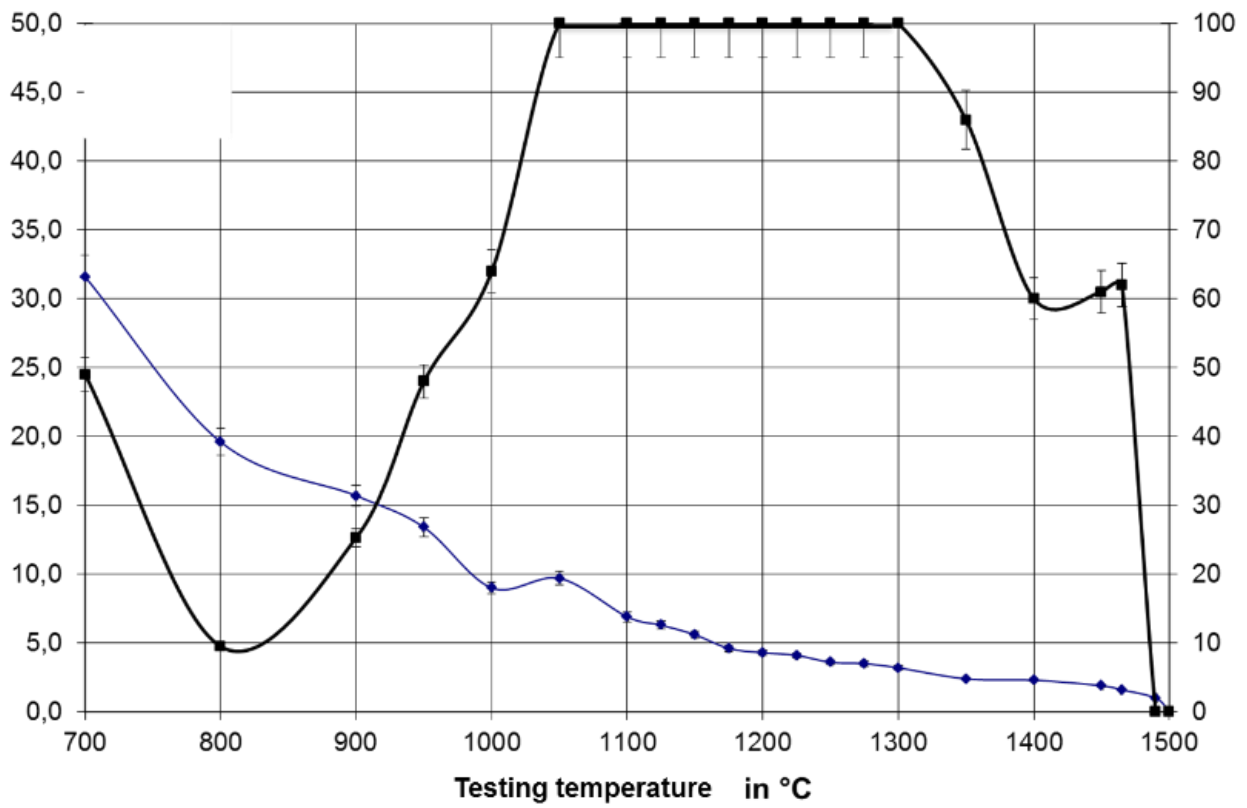
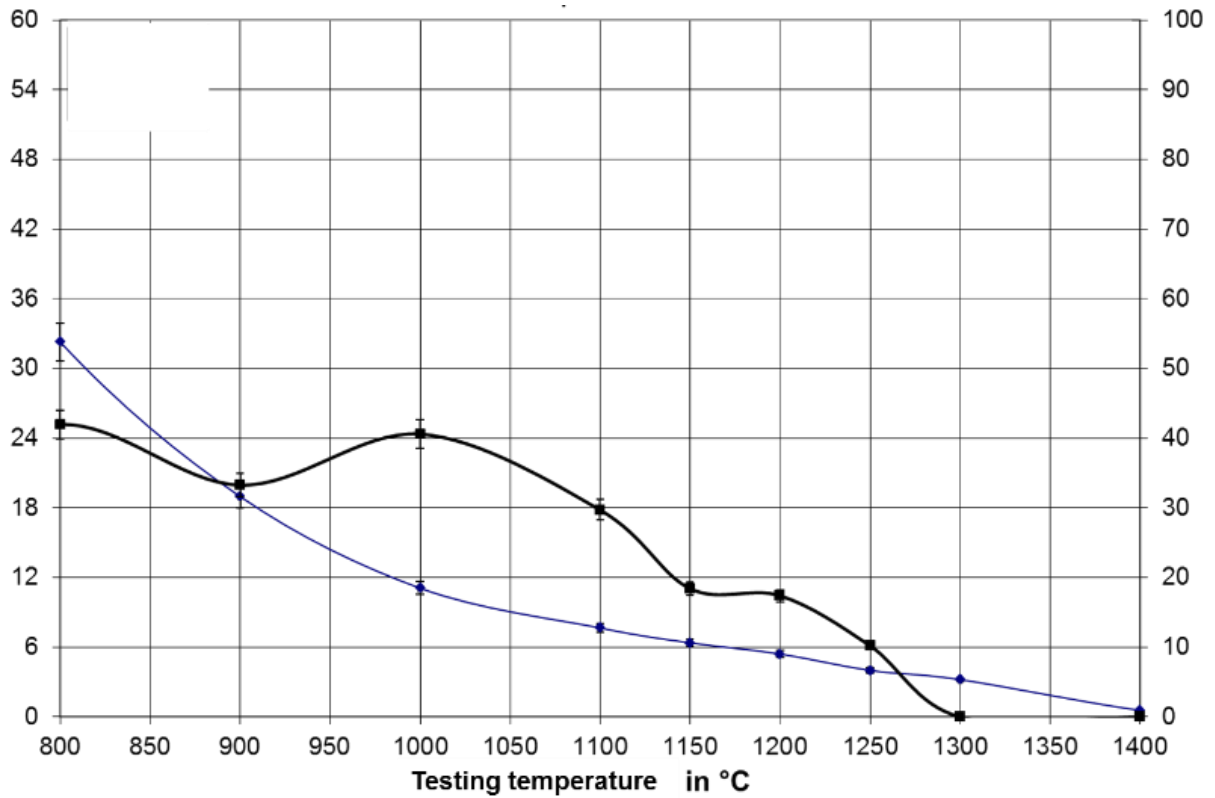

Figure 1: Werkstoff A / Material A
Figure 2 Werkstoff B / Material B
- a) Figure 1 and Figure 2 show the mechanical properties as a function of the testing temperature determined from several hot tensile tests for two different steels. Label both Y-Axes for both figures. Which material is more suitable for strip casting? Explain your choice briefly. (3 Point)